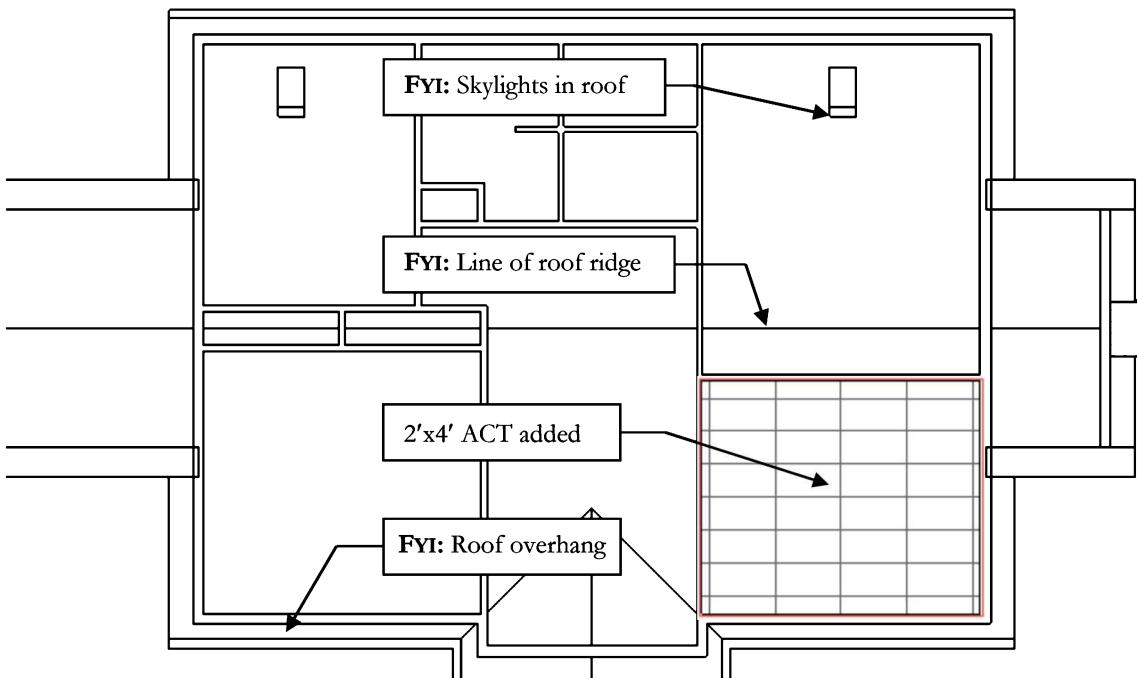

FIGURE 9-2.4: Second Floor Ceiling Plan view: 2'x4' suspended acoustical ceiling tile added to office
7. Pick within the room; Revit places a ceiling grid in the room (Figure 9-2.4).